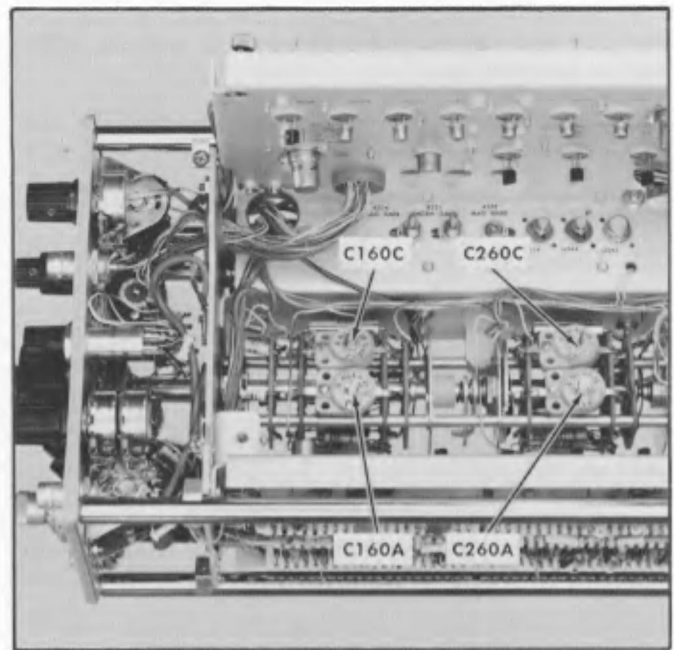

Fig. 6-7. Location of A and B sweep timing adjustments.
f. ADJUST—C160C (see Fig. 6-7) until there is a display of one time marker per centimeter.
m. ADJUST—C160C (see Fig. 6-7) until the sweep starts at the top of the magnified tenth time marker.
f. ADJUST—C160A (see Fig. 6-7) until the tenth time marker is exactly lined up with the ninth graticule line.
f. ADJUST—C260A (see Fig. 6-7) until the tenth time marker is exactly lined up with the ninth graticule line.
- s. ADJUST—C260C (see Fig. 6-7) until the tenth time marker is exactly lined up with the ninth graticule line.